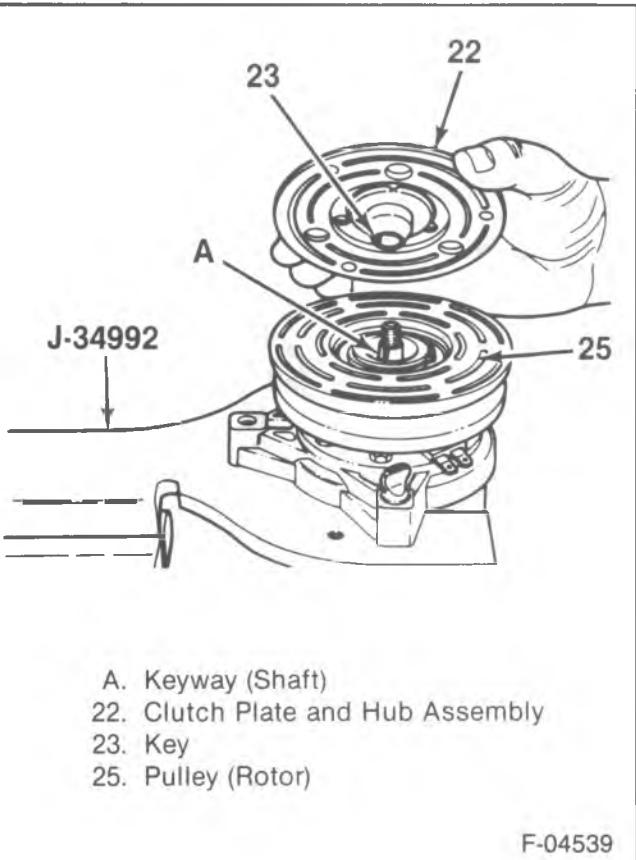

Figure 7—Removing the Clutch Plate and Hub and Shaft Key
1. Shaft key (21).
- Allow the shaft key (21) to extend 3.2 mm (1/8-inch) out of the bottom of the hub keyway (figure 7).
- The shaft key (21) is curved slightly to give an interference fit in the groove.